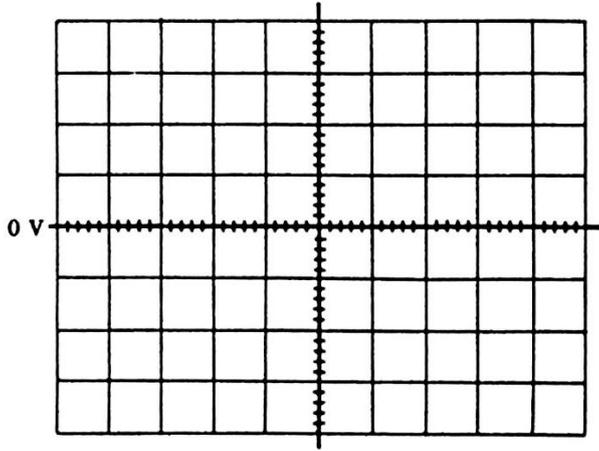

Figure 3.3a
16. Record  $v_I(t)$  and  $v_O(t)$  waveforms on Fig. 3.3a.